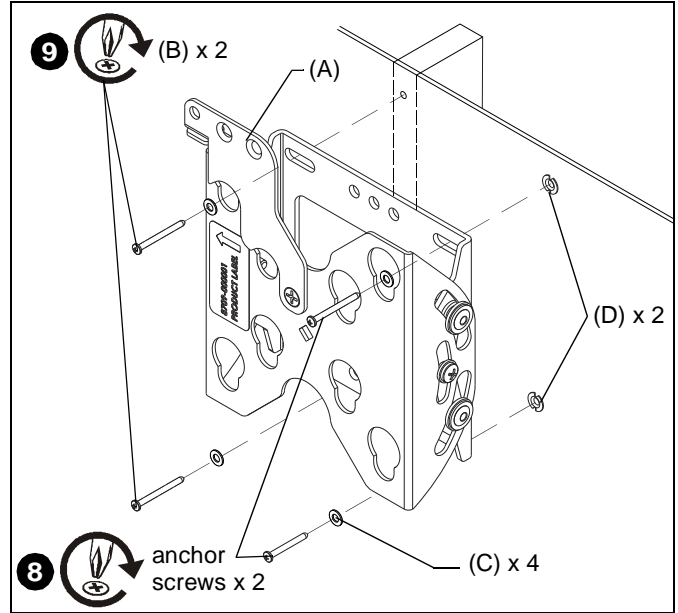

Figure 5
- Insert anchor screws through two #10 washers (C), FTR1U/FTR100 assembly (A) and install into collapsed anchors (D). (See Figure 5)
- Install two #10 x 2 1/2" Phillips tapping screws (B) through two #10 washers (C), FTR1U/FTR100 assembly (A) and into wood stud. (See Figure 5)